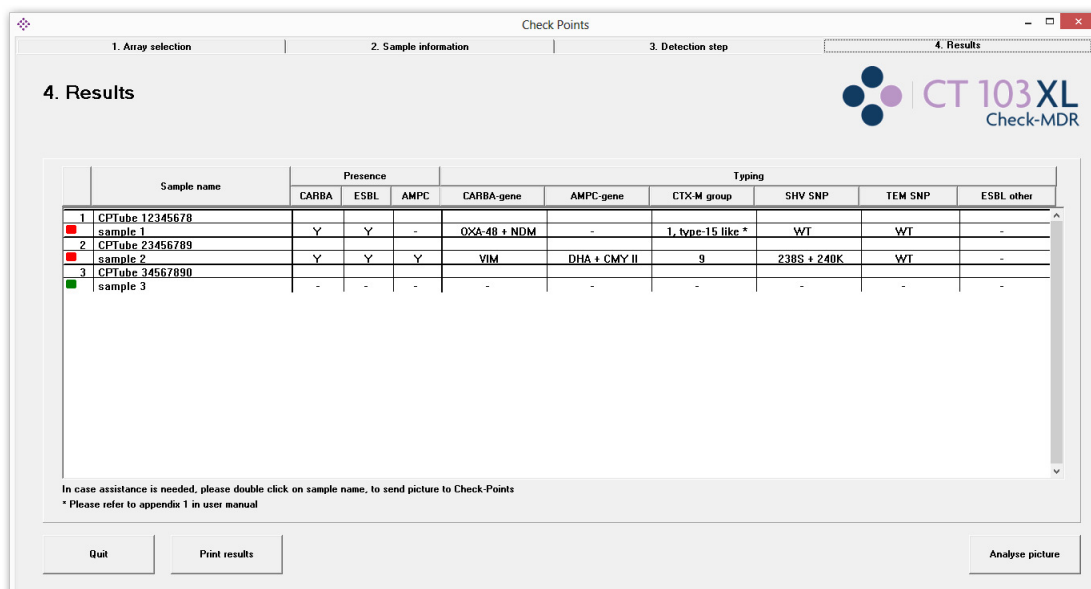

Figure 7: Summary of the results.
- When all ATs have been analyzed, a new window with the summary of the results will appear (see figure 7), which may also be printed (click on the “Print results” button). The results summary will display the sample ID and the presence/absence of carbapenemases, plasmidic AmpC and ESBL as well as combinations thereof (see table 2 for a list of the genes that can be reported). Please note that for the CTX-M-1 group, additional information regarding the subgroup will be displayed (see Appendix 1). Click on the “Quit” button to end this run of analyses.